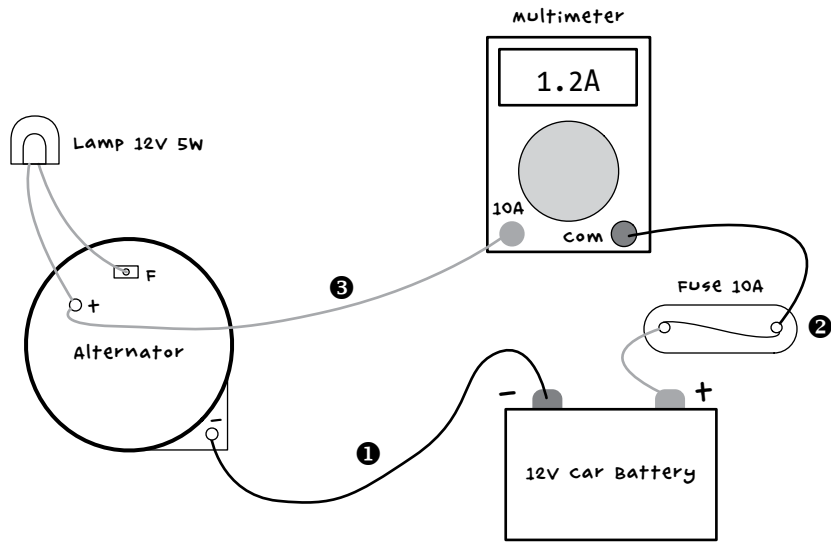

FIGURE 2-17: WIRING DIAGRAM FOR THE CYCLE CHARGER
Now that you know which terminal of the alternator is which, you need to make some leads to connect everything together. The wiring diagram shows how to do this (Figure 2-17).
There are a few leads to make. Let's start with the lead from the negative terminal of the alternator to the battery negative terminal (1 in Figure 2-17). This needs a large alligator clip on the battery end and a butt connector on the other, as shown (Figure 2-18).
The most convenient type of fuse holder has trailing wires at each end. You can use these trailing wires to make the lead between the positive terminal of the battery and the multimeter (❷ in Figure 2-17). Attach an alligator clip lead to one fuse wire and attach the remaining third of the black multimeter lead to the other fuse wire. Wrap the connection between the fuse and multimeter leads with electrical tape, and you should have the completed lead (Figure 2-19).
The final of the three leads (Figure 2-20 and ❸ in Figure 2-17) combines both the lamp and the positive charging connector from the alternator to the multimeter.
With all the leads prepared, it's time to connect everything according to the diagram in Figure 2-17.